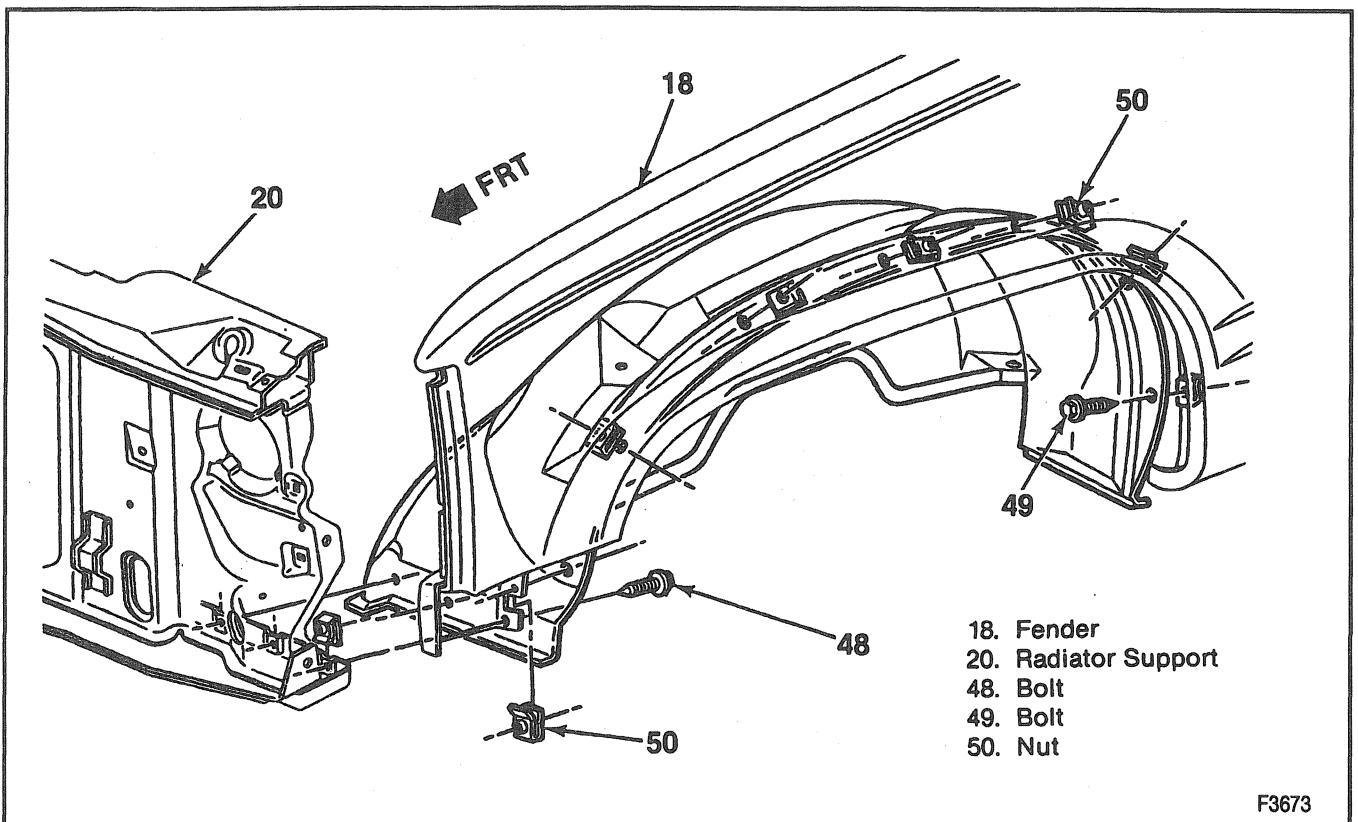

Figure 17—Wheelhouse Panel to Radiator Support Attachment
Remove or Disconnect (Figures 17 and 18)
8. Two bolts holding the wheelhouse to the cowl mounting brackets (Figure 17).
Install or Connect (Figures 17 and 18)
Remove or Disconnect (Figures 17, and 22 through 25)
17. Wheelhouse panel to the radiator support bolts (Figure 17).